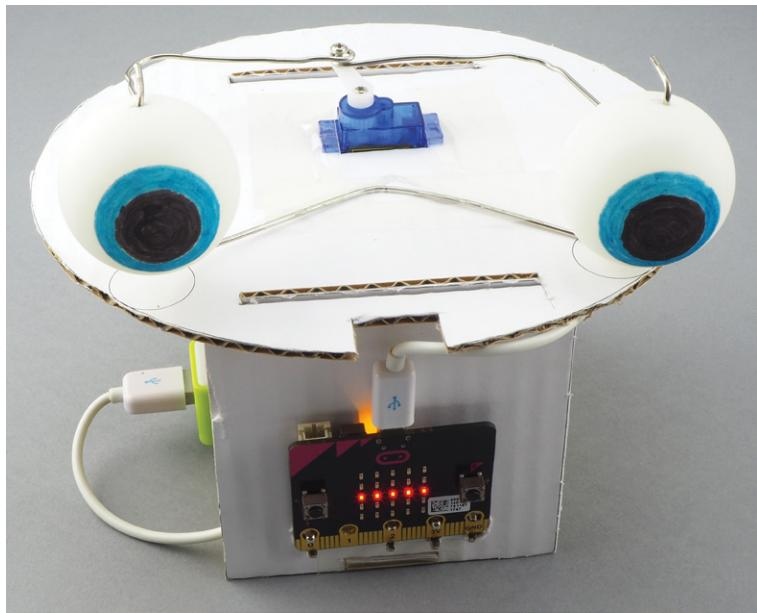

Figure 6-5: The animatronic head
But, referring to Figure 6-5 again, we need to convert the pulse length in milliseconds to a duty value between 0 and 1023 because the `set_servo_angle` function expects a value in that range.
This animatronic head, shown in Figure 6-5, makes a great project for a Halloween display. A servomotor moves a pair of ping-pong ball eyes from left to right, and it uses the micro:bit's display as a mouth. When the head talks, the lights simulate a simple animation of lips moving.
- With everything connected together, attach the top piece of cardboard to the rest of the chassis. The two circles marking the position of the eyes on the top piece should face the micro:bit end of the chassis (refer to Figure 6-5).